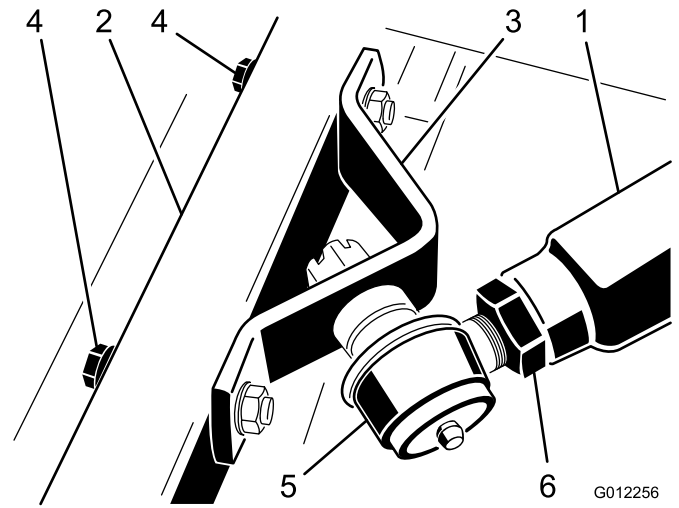

Figure 22
5. Have another person push down on the right push arm while you remove the capscrows, flat washers, and locknuts securing the ball joint mount to the castor arm on the cutting unit (Figure 22). Now the helper can carefully allow the push arm to move upward, which will gradually release the 45 kg (100 pounds) of spring load.
3. Have another person carefully push down on the right push arm until the holes in the ball joint mount line up with the holes in the castor arm (Figure 22).